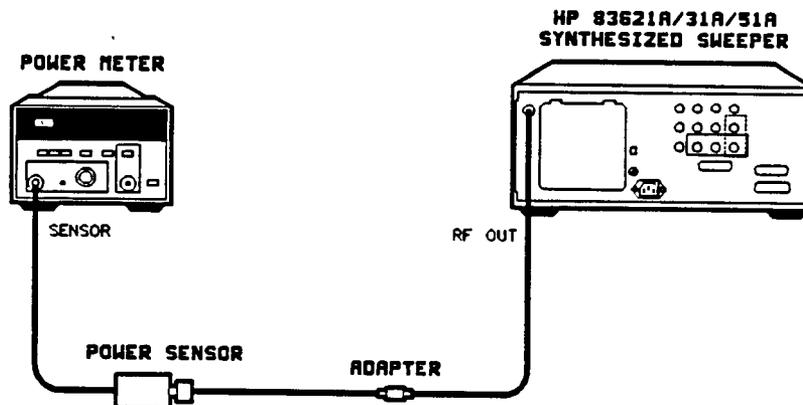

Figure 3-24. ALC Power Accuracy Adjustment Setup
1. Preset the equipment shown in Figure 3-24 and let them warm up for at least one hour. Do *not* connect the power sensor to the synthesizer RF OUTPUT yet.